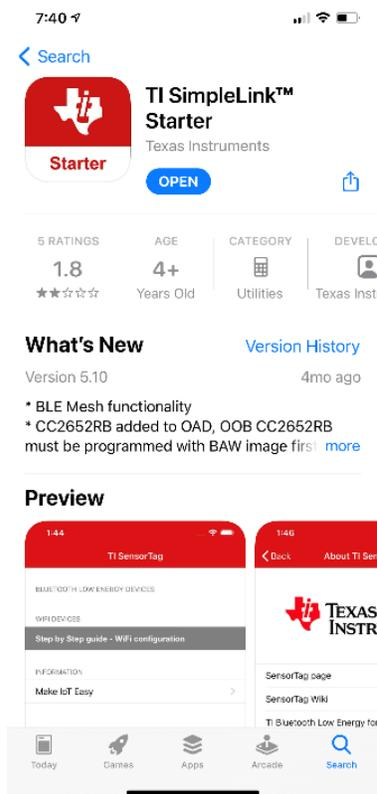

Figure 29 Recommended Bluetooth Scanner iOS Application.
-  See Figure 29: Recommended Bluetooth Scanner iOS Application